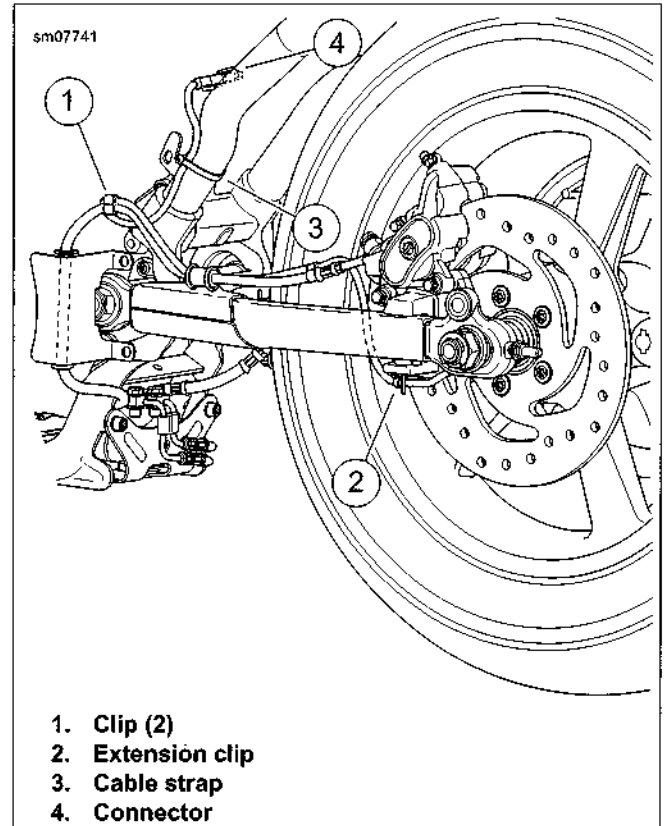

Figure C-3. Wheel Speed Sensor (WSS)
4. See Figure C-3. Remove wire harness.
- a. Remove wire lead clips (1) from brake line.
- b. Remove cable strap extension (2) from rear brake caliper.
- c. Remove cable strap (3).
- d. Separate rear WSS connector [167] (4).